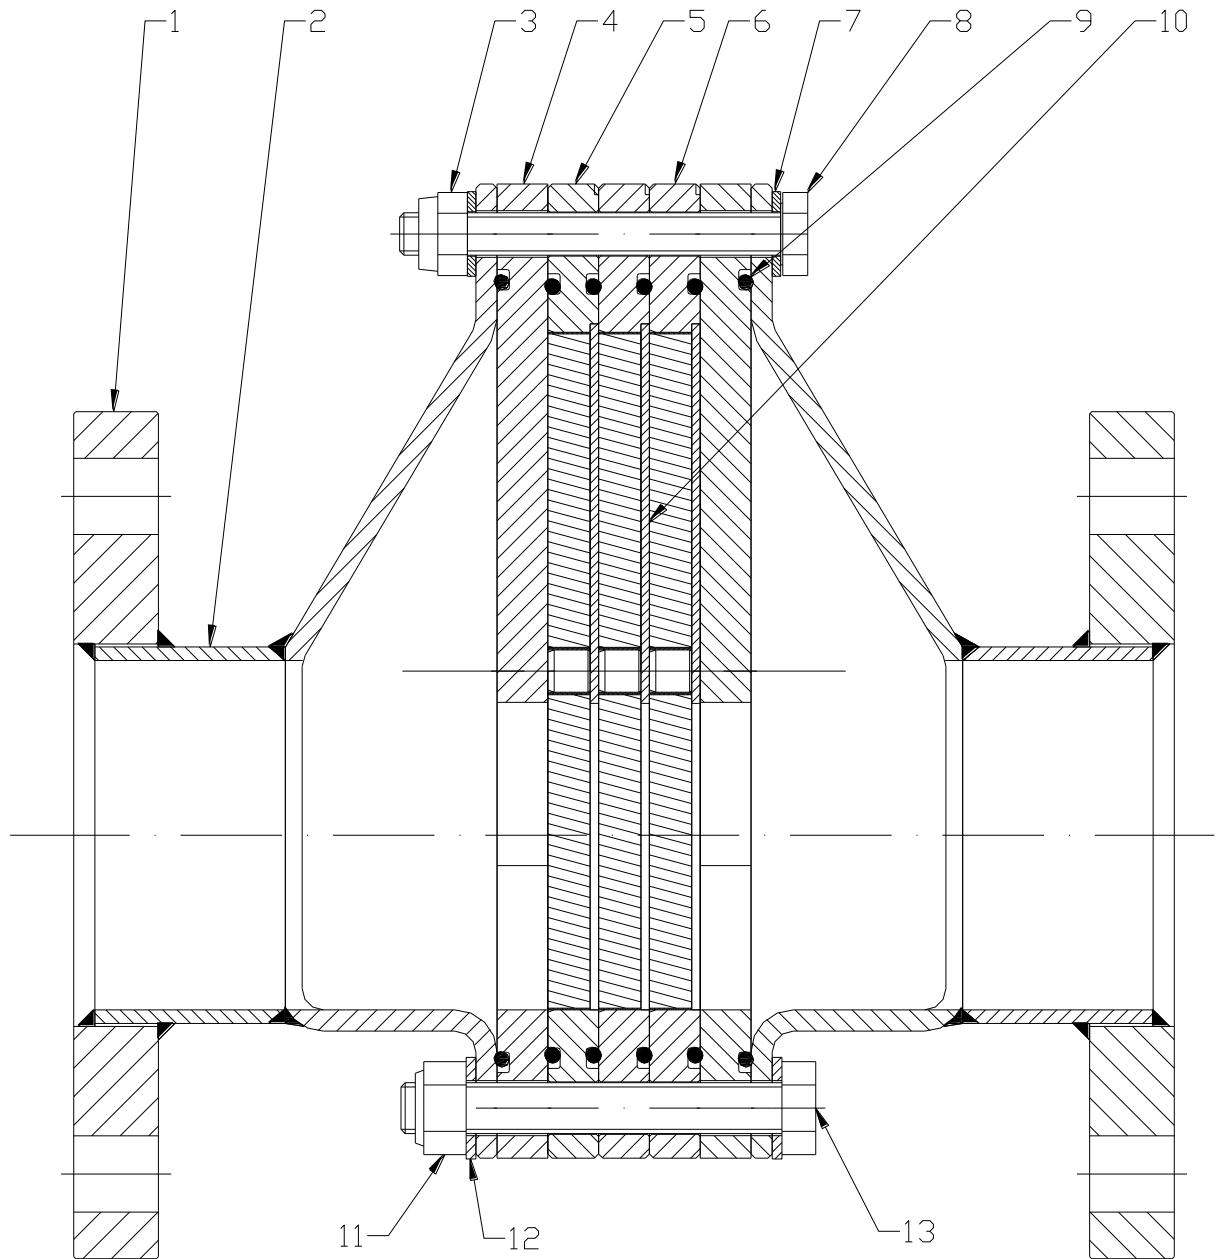

Fig. 1
(See fig. 1)
To prevent high pressure losses in case of liquid condensate the flame arrester should be mounted as shown in figure 1.
- Spare part no. (Please refer to **fig. 1** for items)